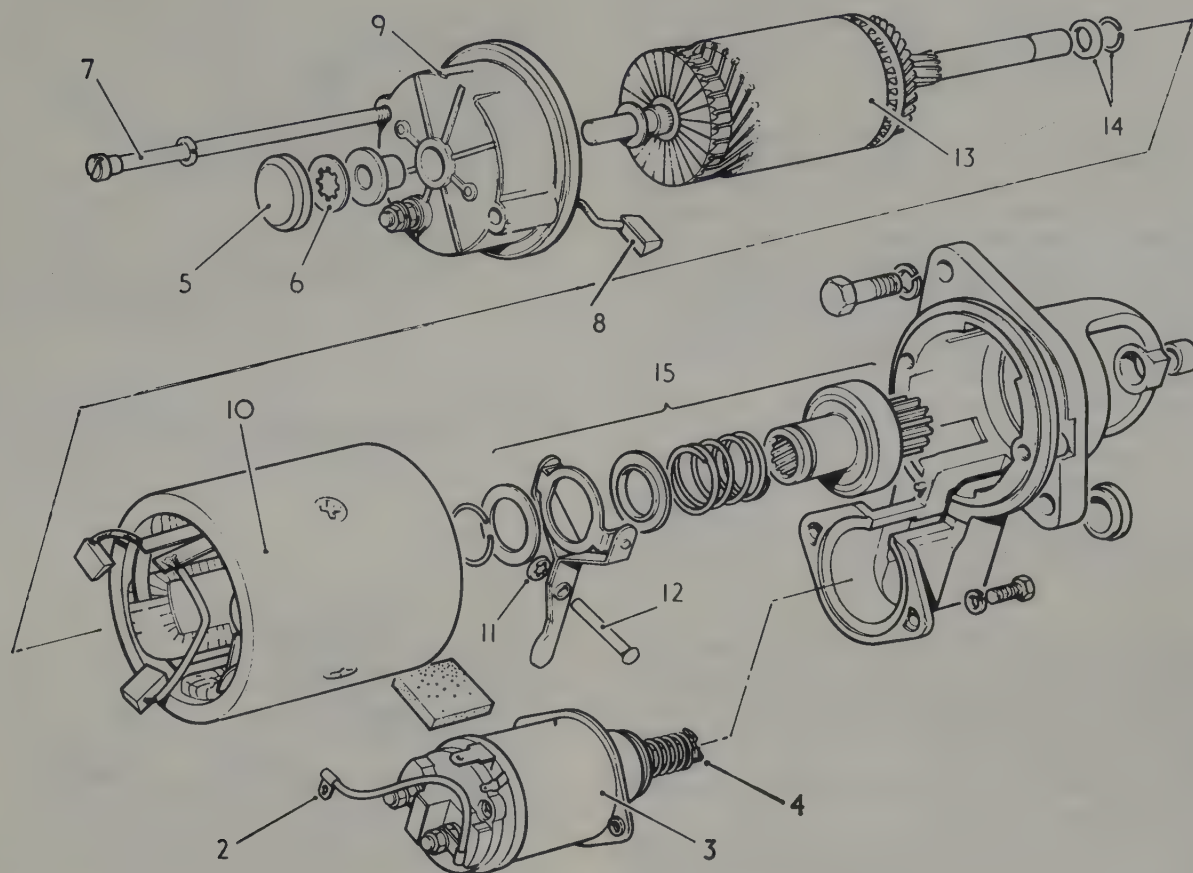

Fig. 10.14. Starter motor components (Lucas 3M100PE)
- 1 This model of starter motor is fitted to all later models (Fig. 10.14). Similar in appearance to the earlier type the removal and refitting instructions are the same as those given in Section 16. The testing procedure of the two types in the car is also identical (Section 15).